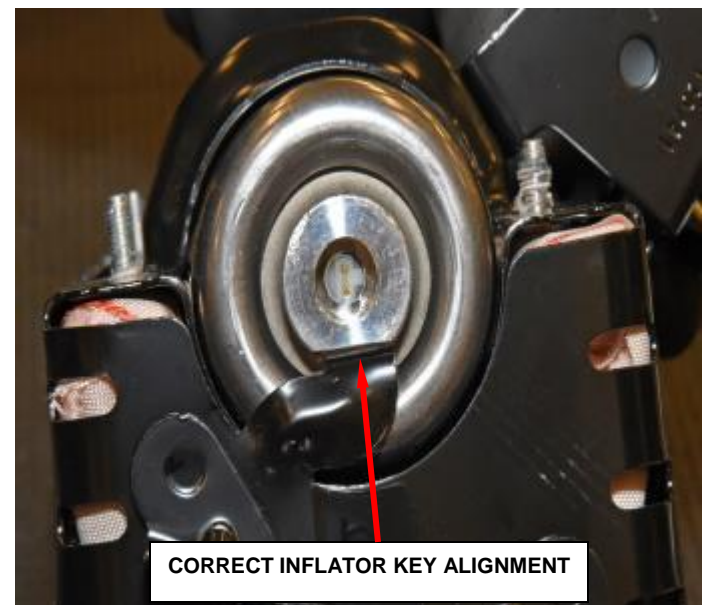

Figure 66 – Check for Inflator Key Alignment
q. Ensure that the inflator’s key is still lined up with the housing’s key (Figure 66).